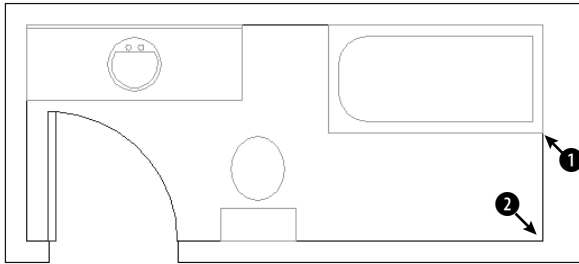

**Figure 9-4:** The bathroom plan.
Specify base point or [Displacement] <Displacement>: *Move the cursor to the Intersection at ❶ in Figure 9-4 and click.*
Specify second point of displacement or <use first point as displacement>: *Move the cursor to the Intersection at ❷ in Figure 9-4 and click.*